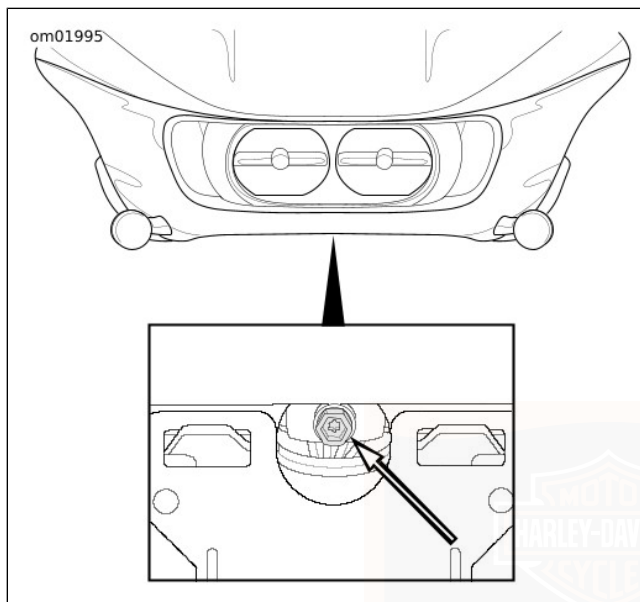

Figure 93. Headlamp Adjuster: Frame-Mounted Fairing
3. **Frame-mounted fairing models:** See Figure 93.